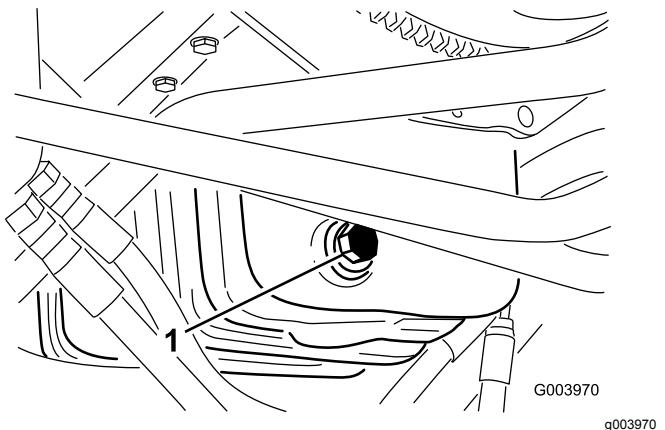

Figure 50
1. Remove the drain plug (Figure 50) and let the oil flow into a drain pan.